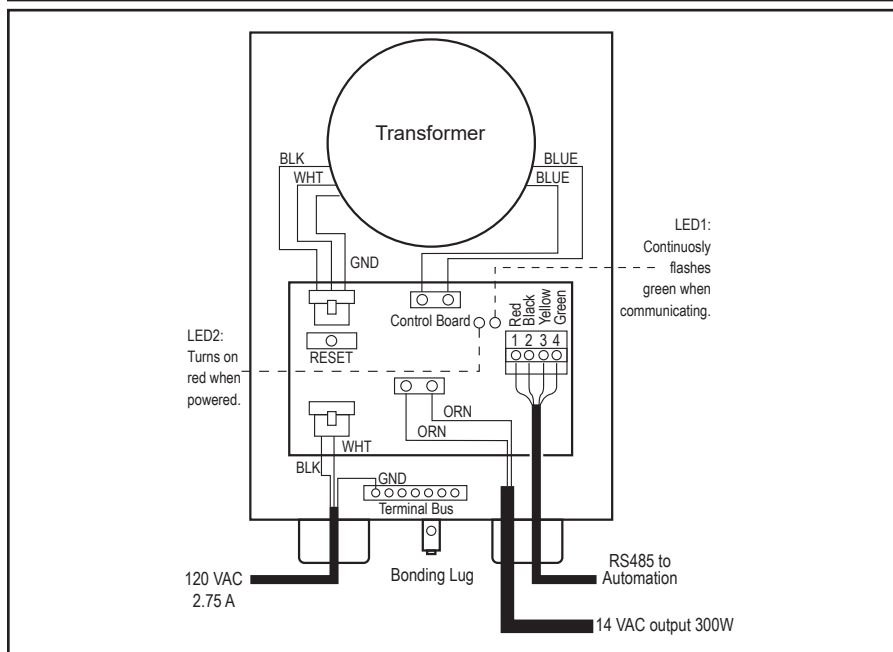

Figure 4. Wiring LED Lights to the Infinite WaterColors LED Light Controller
Refer to Figure 4 for wiring the Infinite WaterColors LED Lights to the LED Light Controller. Refer to the Infinite WaterColors LED Light Controller manual for connecting to the AquaLink RS automation system.
3. Connect the low voltage wires black to orange and white to orange, see Figure 4.